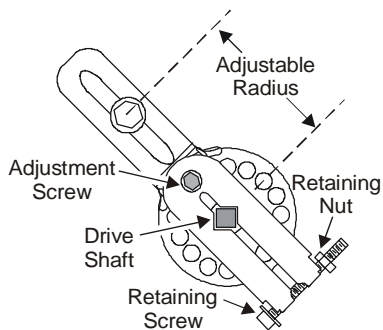

Figure 3: LVR27A-602 Actuator Crankarm
8. Tighten the retaining nut on the crankarm (Figure 3) with an 11/32 in. combination wrench.